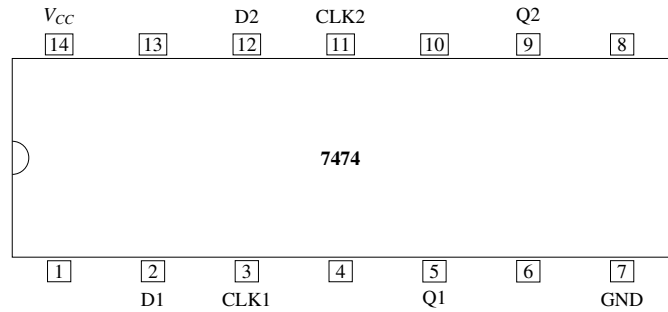
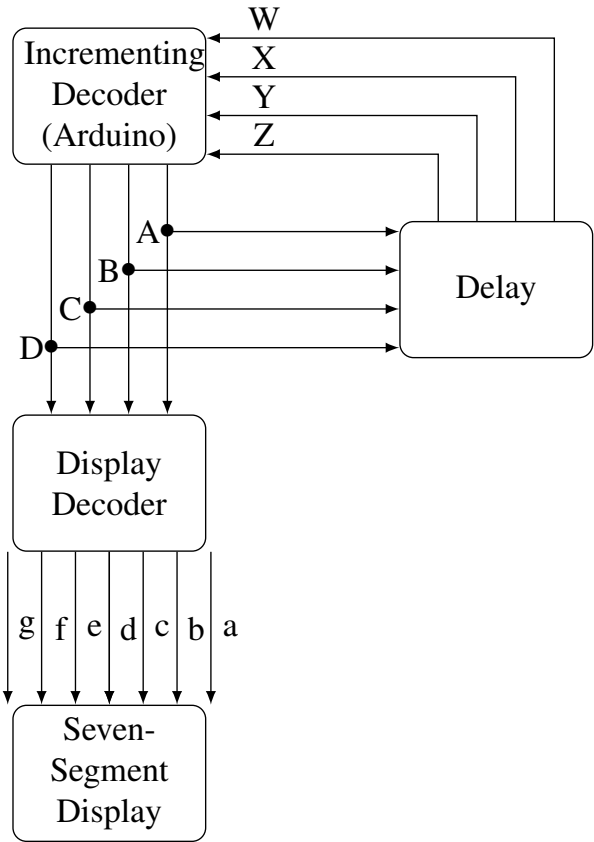

Fig. 5.1
Fig. 5.2
2. Connect the Arduino, 7447 and the two 7474 ICs according to Table 5.2 and Fig. 5.2. The pin diagram for 7474 is available in Fig. 5.1
3. Realize the decade counter in Fig. 5.2.